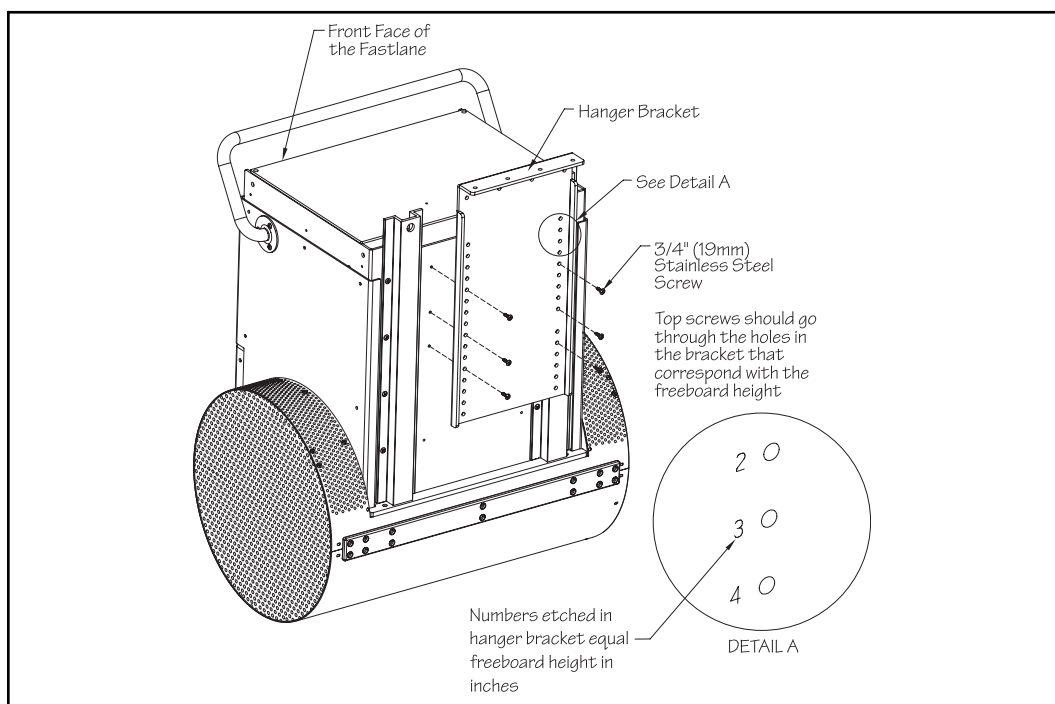

Fig. 9.2
9.2 Carefully lay the assembled Fastlane Pro down on its front face. There are six pre-drilled holes in the center of the top housing (between the protective hat channels). Align the top set of holes in the rear of the housing with appropriate number hole in the hanger bracket (if the freeboard is 6" (15,2cm) then align the #6 holes with the top holes in the housing). When the hanger bracket is positioned on the housing, use the provided 3/4" (19mm) screws to attach (Fig 9.2).